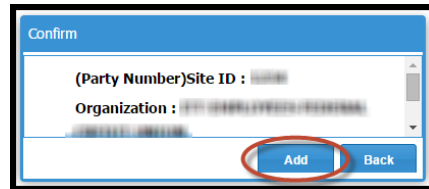

Figure 33 Confirmation dialog box
3. Verify the details in the confirmation dialog box, and then click **Add**, as shown in Figure 33 on page 37. Additional Site ID gets added.